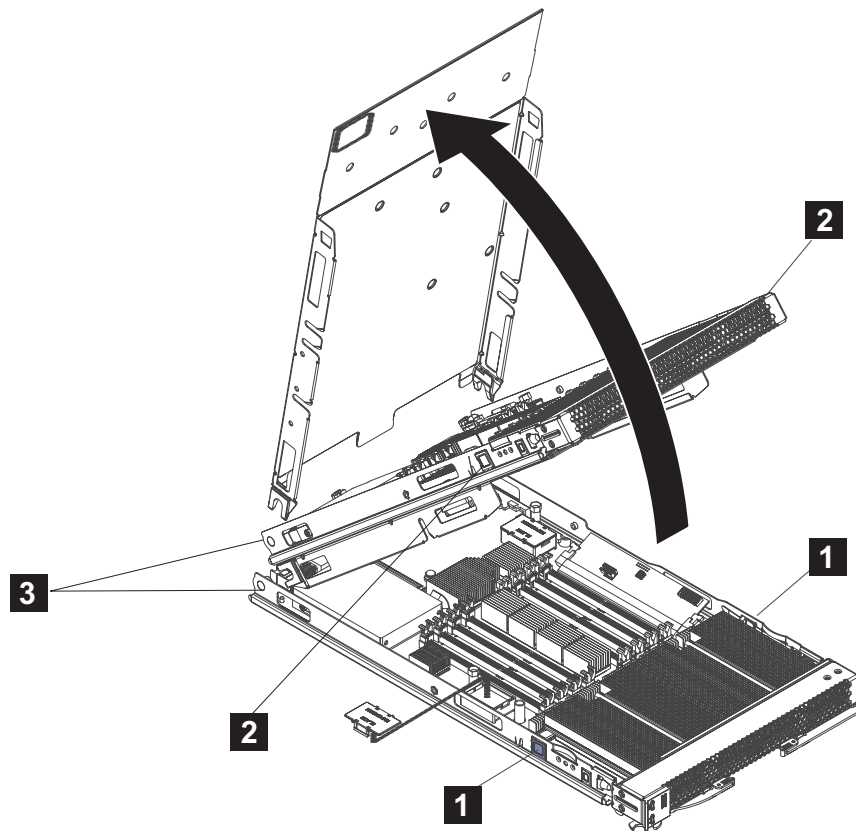

Figure 8. Removing the cover
4. Press the blade-cover release (as shown by **1** for the base unit and by **2** for the expansion unit in Figure 8 on page 26) on each side of the blade server, rotate the cover on the cover pins (**3**) and lift the cover open.